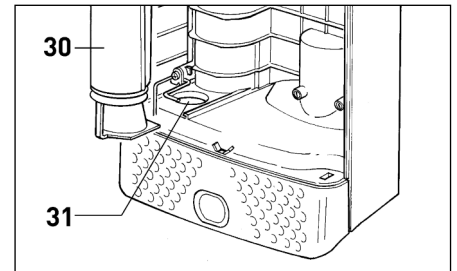

Figure 11
## Changing the Pre-motor Microfilter - Figure 11
3. Microfilter not properly inserted.	3. Lift safety lever and insert filter with vertical plastic ridge on filter facing you (see pg. 10, figure 11).